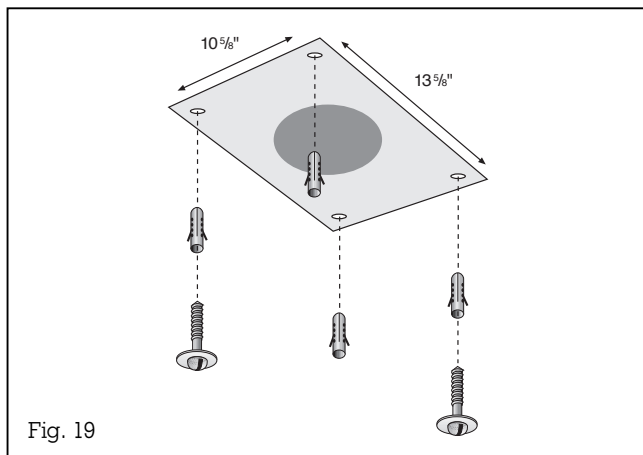

Fig. 19
2. Drill 4 holes $\varnothing$ 8 mm for the wall plugs. Push the plugs flush with the ceiling (Fig. 19).